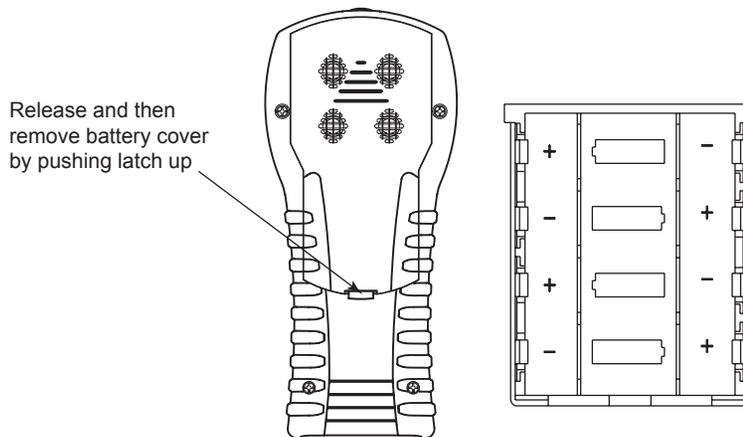

Figure 3-1. Installing Batteries
1. Remove battery cover from back of unit (Figure 3-1).